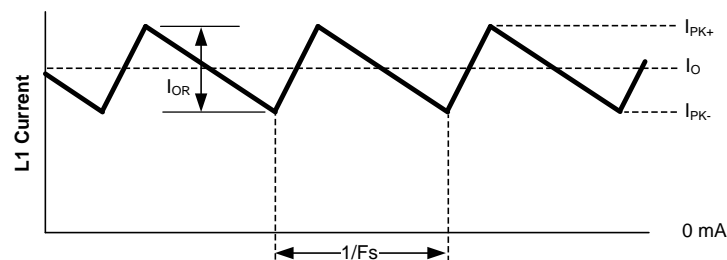

Figure 11. Inductor Current
**RCL**: Since it is obvious that the lower peak of the inductor current waveform does not exceed 1.0A at maximum load current (see Figure 11), it is not necessary to increase the current limit threshold. Therefore  $R_{CL}$  is not needed for this exercise. For applications where the lower peak exceeds 1.0A, see INCREASING THE CURRENT LIMIT THRESHOLD.
**C1**: This capacitor limits the ripple voltage at VIN resulting from the source impedance of the supply feeding this circuit, and the on/off nature of the switch current into VIN. At maximum load current, when the buck switch turns on, the current into VIN steps up from zero to the lower peak of the inductor current waveform ( $I_{PK-}$  in Figure 11), ramps up to the peak value ( $I_{PK+}$ ), then drops to zero at turn-off. The average current into VIN during this on-time is the load current. For a worst case calculation, C1 must supply this average current during the maximum on-time. The maximum on-time is calculated at  $V_{IN} = 6V$  using Equation 5, with a 25% tolerance added:
The current limit threshold is nominally 1.25A, with a minimum value of 1.0A. If, at maximum load current, the lower peak of the inductor current ( $I_{PK.in}$  in Figure 11) exceeds 1.0A, resistor  $R_{CL}$  must be added between  $S_{GND}$  and  $I_{SEN}$  to increase the current limit threshold to equal or exceed that lower peak current. This resistor diverts some of the recirculating current from the internal sense resistor so that a higher current level is needed to switch the internal current limit comparator.  $I_{PK.in}$  is calculated from: